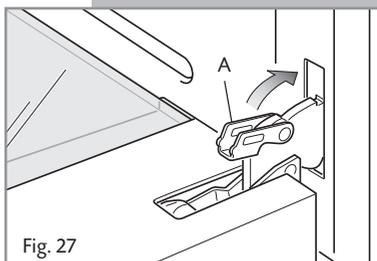

Fig. 27
- Unlock the oven door by opening it completely and closing the lever **A** on the left and right hinges (Fig. 27).